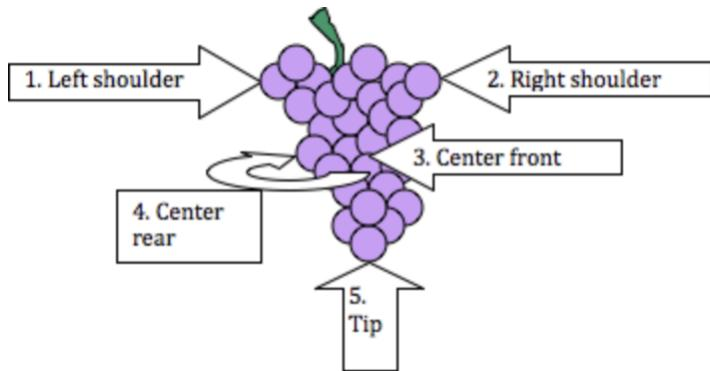

Figure 12: Sampling locations on cluster
4. At each vine, collect five berries from each of the three flagged clusters. Clusters generally develop from top to bottom so collect berries from the approximate positions indicated in Figure 12. Try to close or avert your eyes and sample by feel to avoid being visually drawn to the most developed grapes. Healthy grapes should feel firm and juicy to the touch. A